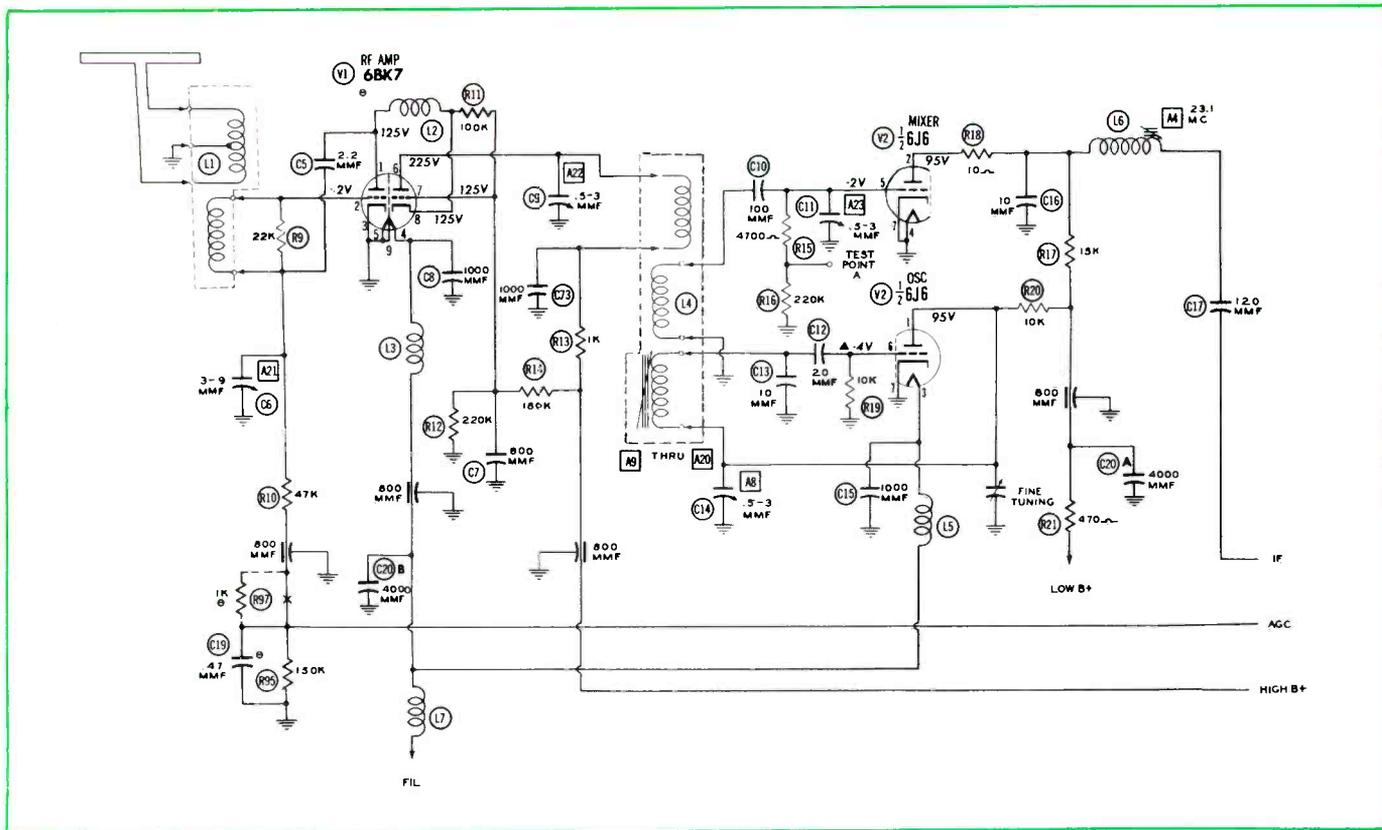

Fig. 2. Schematic Diagram of a Turret Type of Tuner With a Cascode RF Stage.
types of RF stages are the cascode and the pentode. For reference, the schematic diagram of a turret type of tuner which has a cascode type of RF stage is shown in Fig. 2; and the schematic diagram of a switch type of tuner which utilizes a pentode type of RF stage is shown in Fig. 3.
To isolate the trouble, connect an amplitude-modulated signal (with a frequency which is approximately the same as the intermediate frequency) to the mixer-grid test point on the tuner (point A in Figs. 2 and 3). The appearance of one or more black bars on the face of the picture tube would show that the trouble is probably in the tuner. Varying the output of the signal generator should cause the indication on the face of the picture tube to change from a very weak pattern to one with high contrast. NOTE: It may be necessary to clamp the AGC line at a negative 3-volt level in order to make this check.
- d. Failure of the feedback capacitor in the oscillator stage. (See C12 in Fig. 2 or C20 in Fig. 3.)